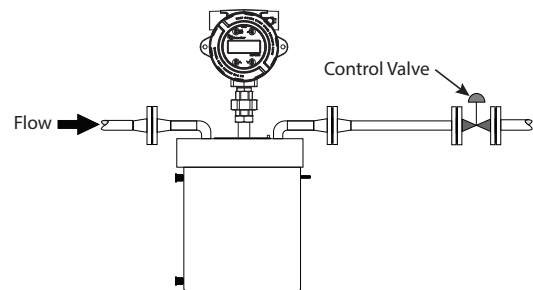

Figure 8: Control valve location
- Mount control valves downstream of the flow meter to prevent possible cavitation, especially when measuring liquids with low boiling points (see Figure 8).